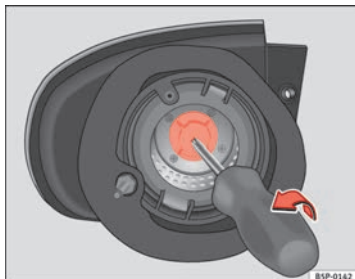

Fig. 192 Turn signal light.
- Pull out the turn signal bulb holder using a screw driver in the direction of the arrow ⇒ Fig. 192.